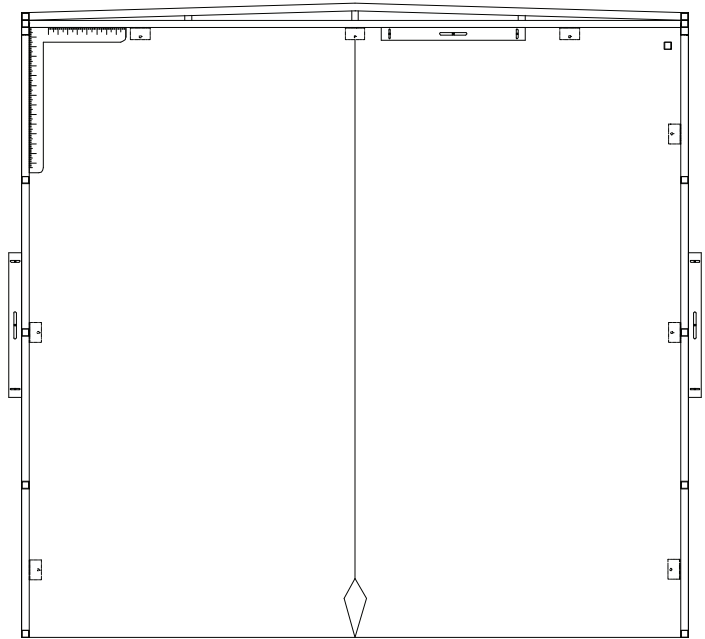

FIG. 9A
a. Make sure entire shelter is plumb, level, and square (Figure 9a). Shim where necessary.
- Match top center of header curtain with top center of head frame (Fig. 9a).